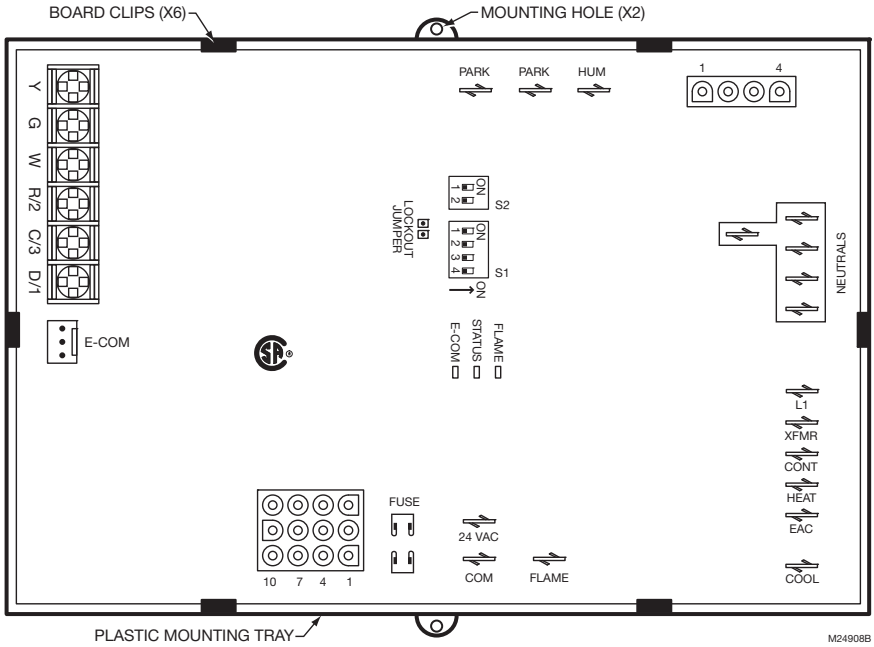

Fig. 4. Typical mounting orientation showing wiring connections and components of the S9200U1000 Universal Integrated Furnace Control.
5. The S9200U1000 can be mounted vertically in any orientation. See Fig. 4 on page 9 for typical mounting orientation.
Check the wiring diagram (Fig. 4 on page 9) and the diagram furnished by the appliance manufacturer for all terminal designations. Table 5 and Table 6 beginning on page 8 describe the wiring connections for Class 2 and Class 1 installations.
Jumper (see Fig. 4 on page 9)	Remove jumper to enable
The following field and safety parameters may be set using DIP switches S1 and S2. Refer to Fig. 4 on page 9 for the location of the two DIP switch blocks.
The S9200U1000 provides three indicating LEDs; see Fig. 4 on page 9 for location on board: